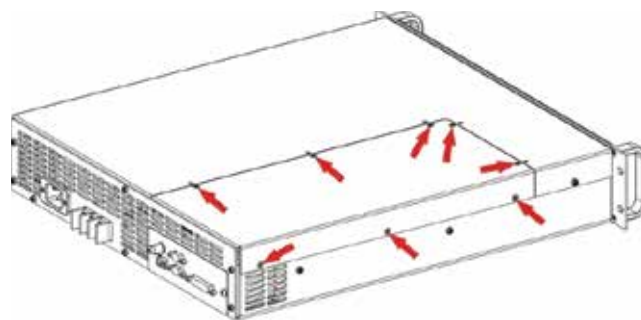
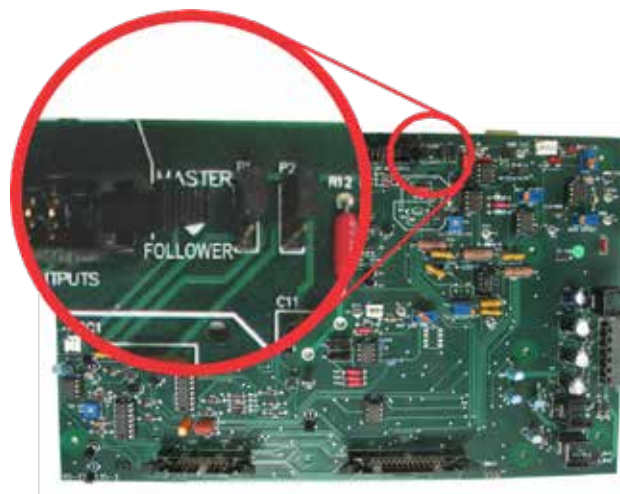

Figure B.2.9 – Access Panel Screw Locations
Figure B.2.10 – Master/Follower Setting
6. On the Follower amplifier, locate the Access Panel as shown in **Figure B.2.9**. Make sure that all 8 screws are accessible. Remove the unit from its rack, if necessary.
7. Using a #2 Phillips screwdriver, remove the eight (8) screws located on the top and side of the amplifier.
9. On the main board, locate the jumpers P1 and P2 (Master/Follower). For Follower operation, set both jumpers to the DOWN position (lower two pins shorted). See **Figure B.2.10** for jumper locations.